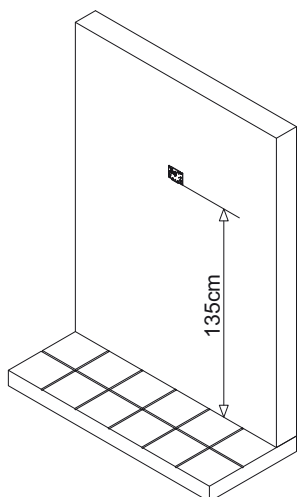

Fig.1
- Cables must be fed through the opening "e" (Fig. 2A) of the mounting plate "c", which should be fitted approximately 135cm from finished floor level as shown in Fig 1;